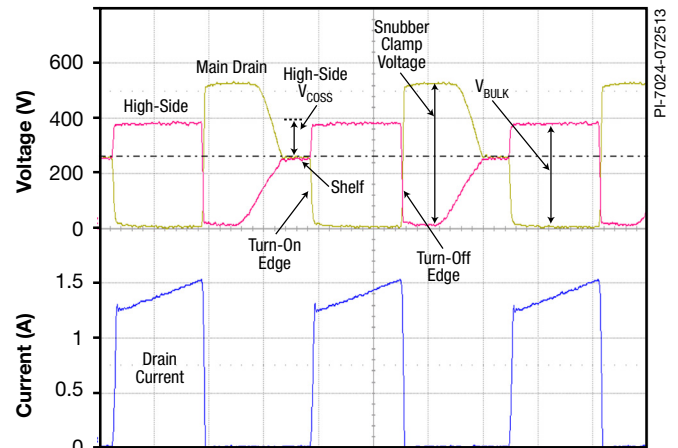

Figure 28. Typical Full Load Waveforms of the Main Drain. High-Side MOSFET Source, and Drain Current.
Repeat the measurements at full load. Be cautious of over-heating the power supply and use a strong fan. Measure the source voltage (HS) of the high-side MOSFET at turn-on for each steady-state switch cycle (Figure 28). It should be $< 40\%$ of the bulk voltage. Calculate and verify the K_p from the current waveform and verify with the spreadsheet. Also check the peak current at peak load – do not dwell at peak load for more than several seconds to prevent over-heating.